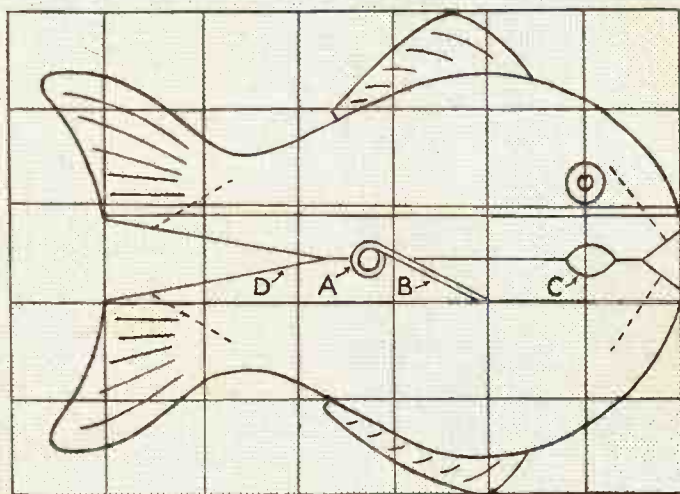
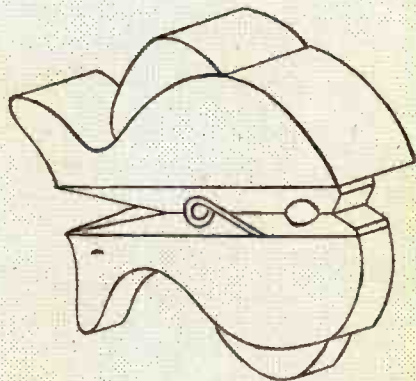

Fig. 1—Draw fish on pattern of  $\frac{1}{2}$ " squares. Dotted lines indicate position of nails. A.B.C.D. refer to instructions for cutting cover pieces.
Fig. 2—Showing the position of shaped pieces on the peg.
The floats are made from standard five-ply, and are the same size. They can be cut from a sheet with a hand saw and bolted to the arms as shown in Fig. 2. The floats should be liberally coated with shellac before the first trip.
Secure these shaped pieces to the peg with glue, their fronts fitting flush with the side of the peg, Fig. 2. The surfaces which are glued must be level to ensure a strong joint. Drive in four  $\frac{1}{4}$ in. fretwork nails where indicated by the dotted lines in Fig. 1. A wedge inserted near the spring coil will open the peg sufficiently for this to be done with a hammer and punch. Drill holes for the nails to prevent the peg splitting.
Draw the two parts of the fish on a thin cardboard pattern of  $\frac{1}{2}$ in. squares, omitting the middle part representing the peg (Fig. 1). Cut them out, and, placing the top half on a piece of wood  $1\frac{1}{2}$ in. thick, draw round the outline with a pencil. Cut out with a heavy duty fretsaw blade. Follow the above instructions for the bottom half, using wood which is  $\frac{3}{4}$ in. thick. Smooth thoroughly with glasspaper.
half of the peg. When cut out, these paper patterns are secured to the fish with strips of Sellotape. The outline of the coil (A), the arm (B), the mouth (C), and the tail opening (D), (Fig. 1) will appear through the tracing paper. Mark these carefully on the paper with a pencil. Remove the paper, and complete the cutting out. Glue the paper patterns to thin cardboard, and cut them out to make the cover templates. Lay the tem-